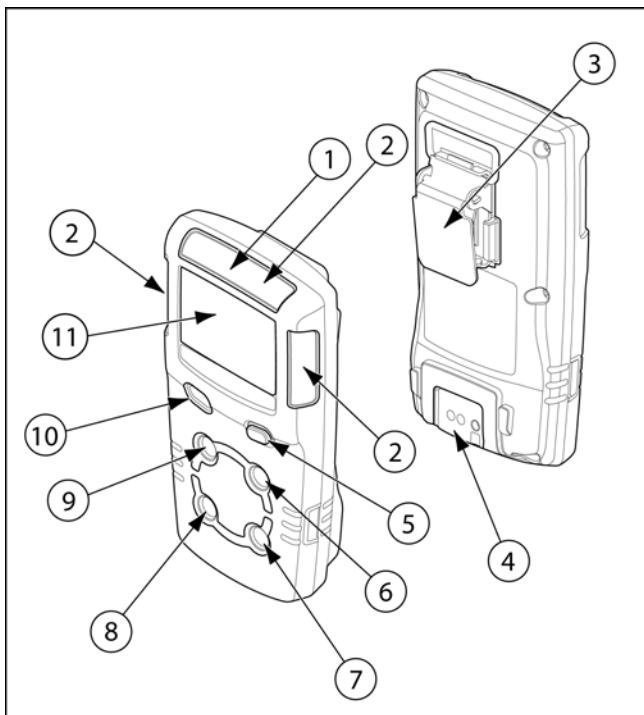

Figure 1. Parts of the GasAlertMicroClip XT
- Figure 1, and Table 3, describes the detector's components.